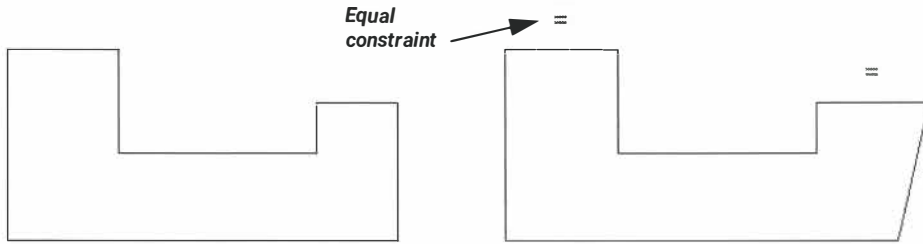

Figure 4–12
2. The second object takes on the measurements of the first object. In Figure 4–12, the object on the right was not constrained and only the selected segment of the polyline changed in distance.